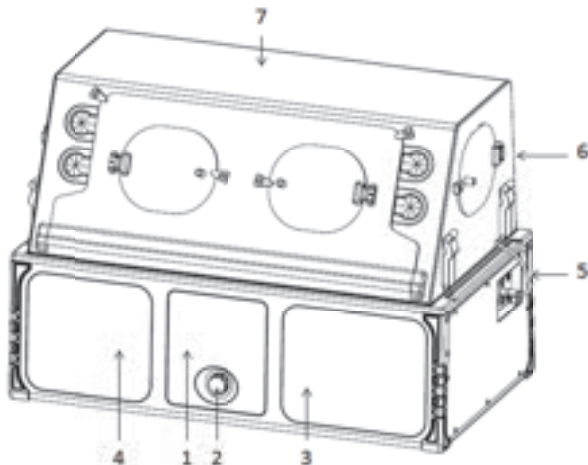

Figure 3-1 Front ISO View
2. With the Transport Incubator connected to AC power, press the wheel (**Figure 3-1**, item 2) to turn the Transport Incubator on. The Transport Incubator will perform a Power On Self-Test and test the audible alarm. Ensure the Power On Self-Test progress bar is displayed, and that the audible alarm can be heard. Verify the AC power icon and battery power icon is displayed in the upper left hand corner after completion of the test.